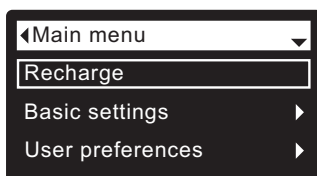

FIG. 35
During normal operation (status screens rolling), press the filter's SELECT (O) button to display the Main menu (See Figure 35). This menu and its subsidiary screens are used to control these operations: